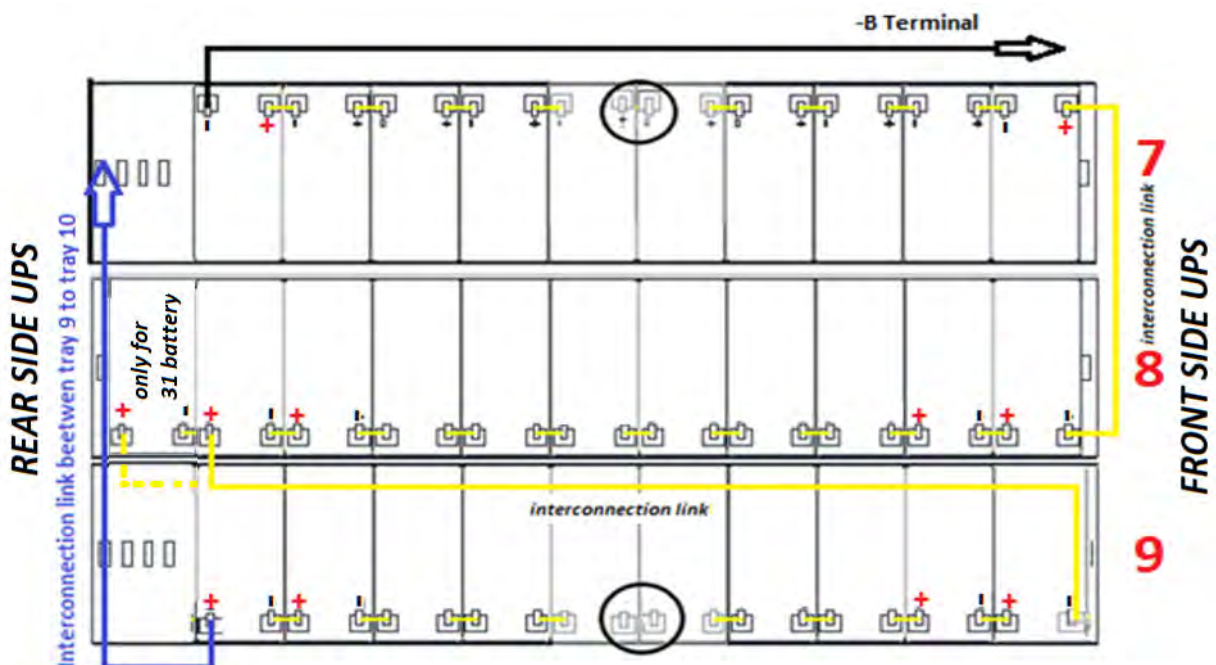

Figure 17 - View from above Level No.3 with battery connections
10) Wire the level as indicated in Figure 17. **Leave the circled jumpers disconnected.**